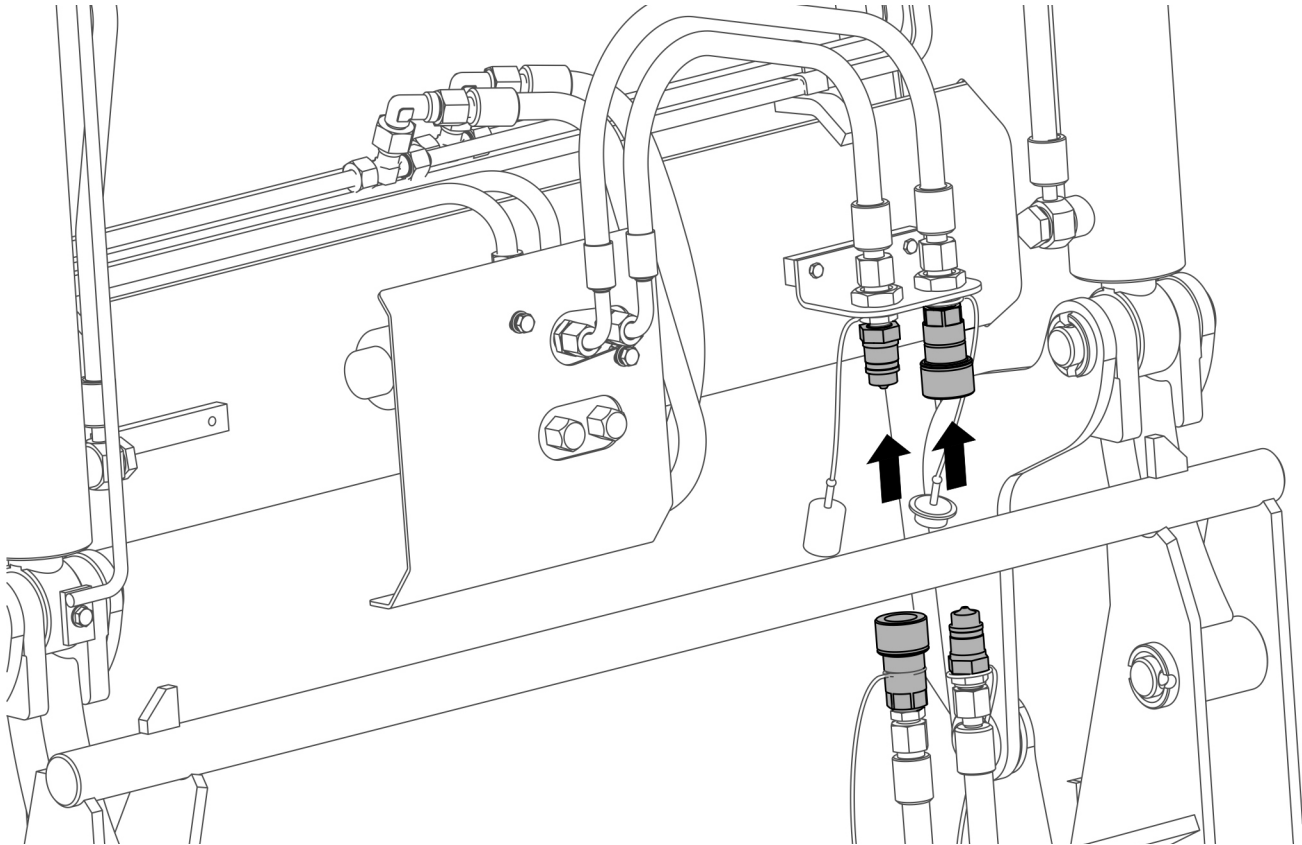

FIGURE 4.24 Connecting the implement's hydraulic system
- using quick couplers, connect implement (FIGURE 4.24) to loader's hydraulic system;